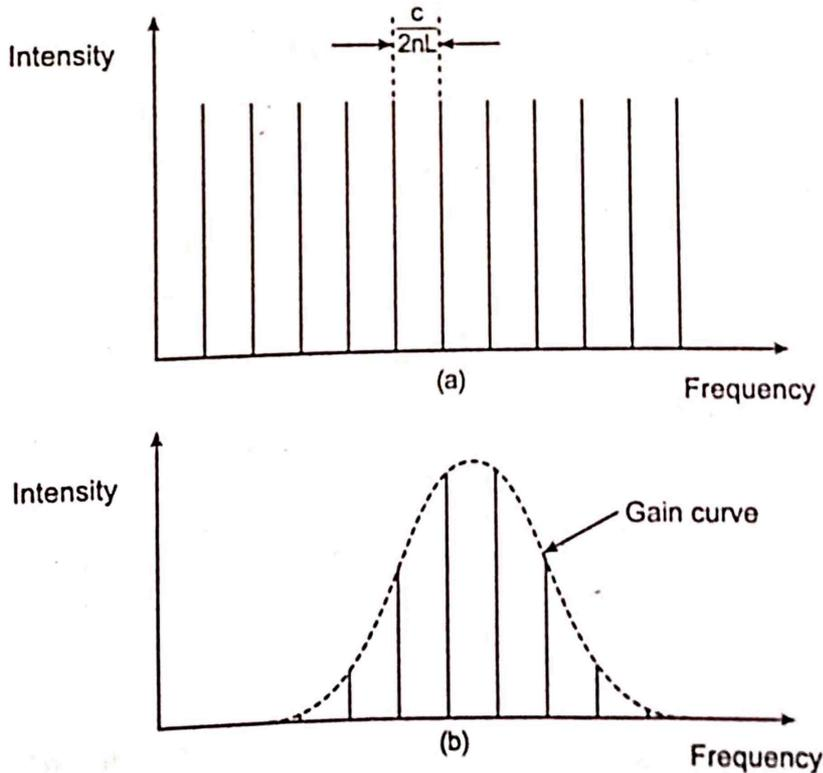

Fig 5.8 (a) The modes in the laser cavity.
- ♣ The laser emission will only include the longitudinal modes contained within the spectral width of the gain curve which is illustrated in Fig 5.8 where several modes are shown to be present in the laser output. Such a device is said to be *multimode*.